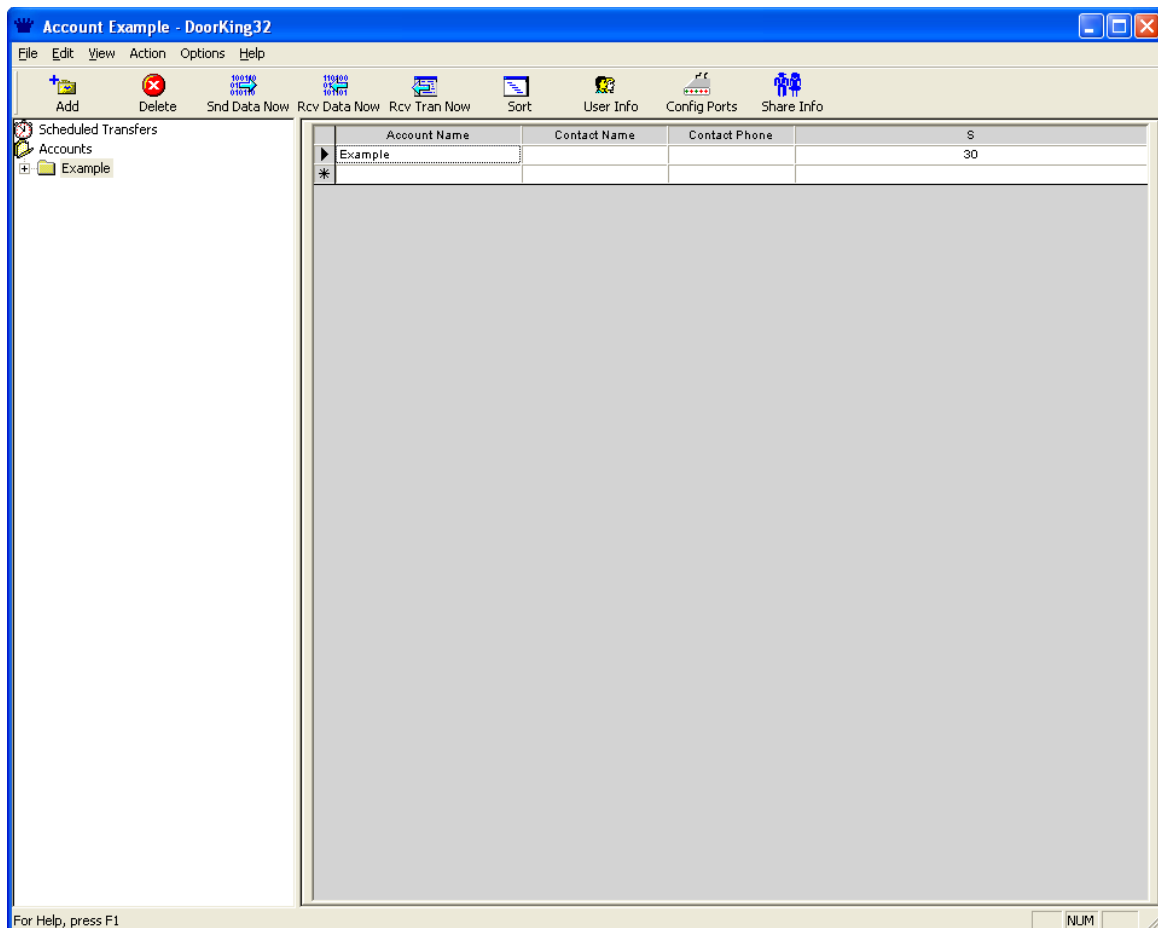

Figure 1
2. The ACCOUNT screen will appear on your screen (fig 1). An account named "Example" has already been created.